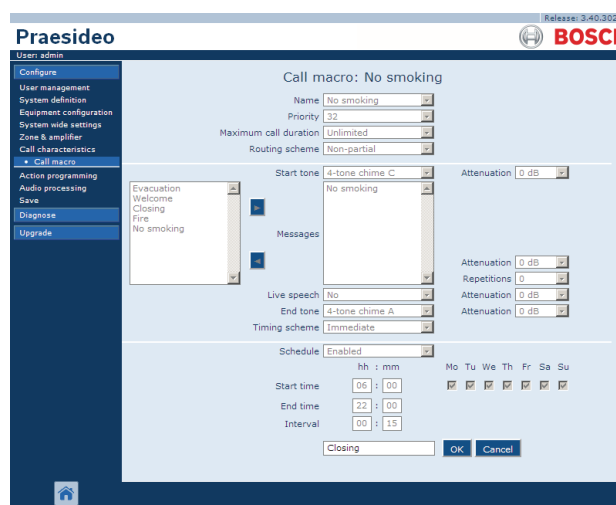

figure 47.4: Add call macro, step 3
- 3 Enter the name of the new call macro in the *Name* field (see figure 47.4 for an example). It may consist of up to 16 characters.